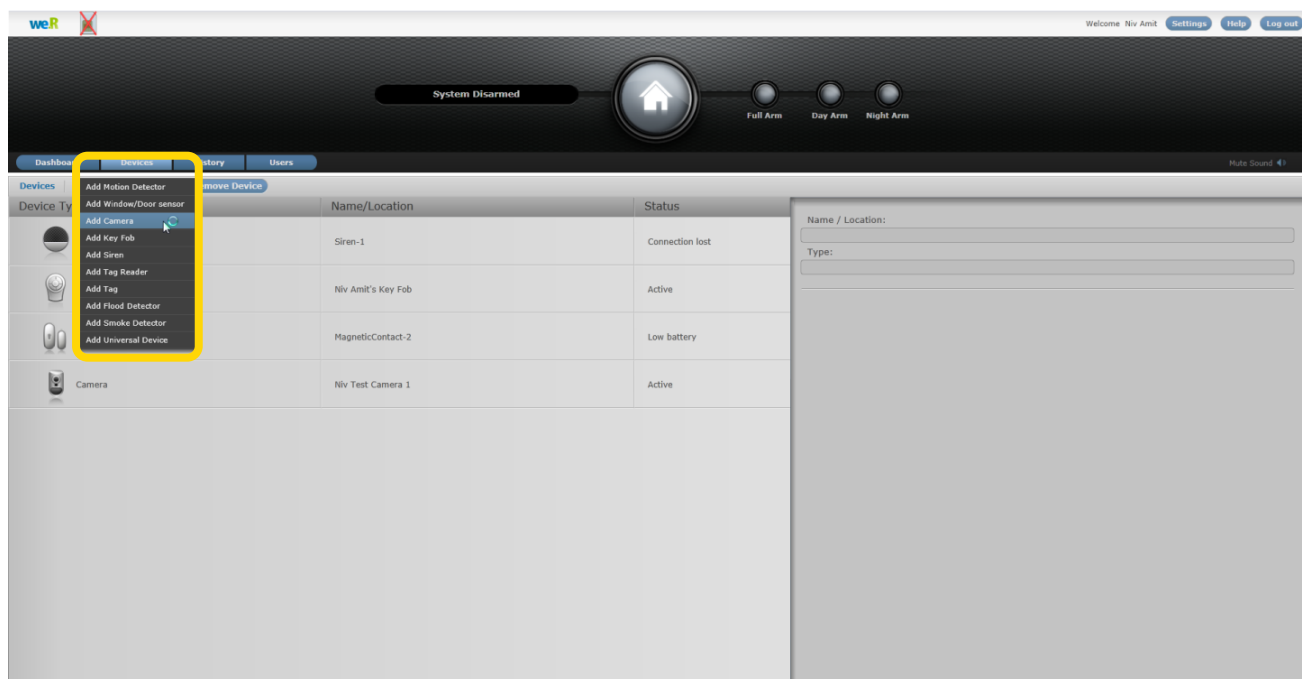

Figure 63: Add Camera Device Utilizing Web Application
6. Click over the **Add Camera** option of the menu as illustrated in Figure 63 below: